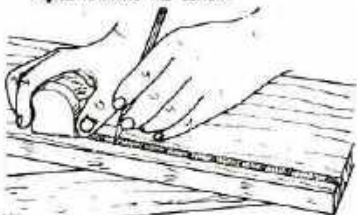

Fig 414. LAYING OUT LENGTH
3. Lay out the length you want with a measuring rule and mark it with a sharp pencil. Square the line on the surface of an edge and cut it off with a cross-cut saw. Fig.414